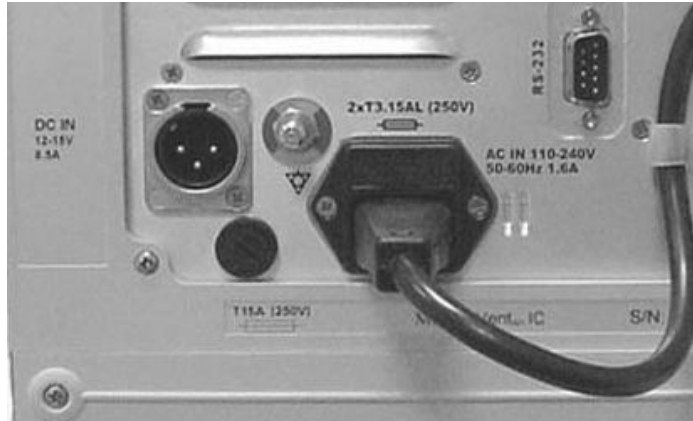

Figure 5: External AC and DC power supply sockets. The AC power cord is connected to the power inlet and fastened with the clip.
The iVent™201 can use either external alternating current (AC) or direct current (DC) power. Both AC and DC inputs are located on the back panel of the ventilator (see Figure 5). A hospital grade AC power cord is supplied